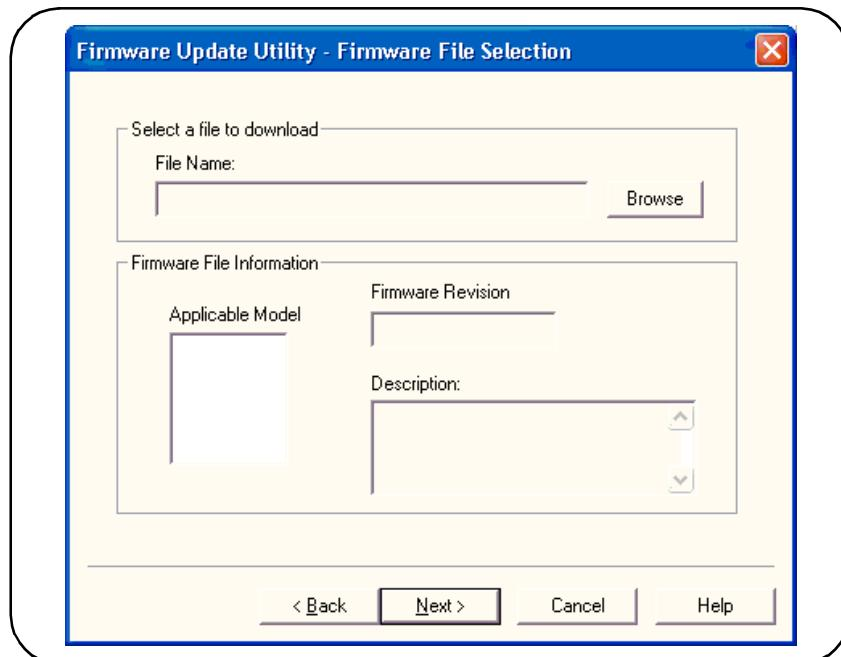

Figure 2-17. Firmware Update Utility File Selection Window.
1. From the directory where the update utility was installed, start the utility by selecting **FirmwareUpdateUtility.exe**. Select 'Next' until the window shown in Figure 2-17 appears.